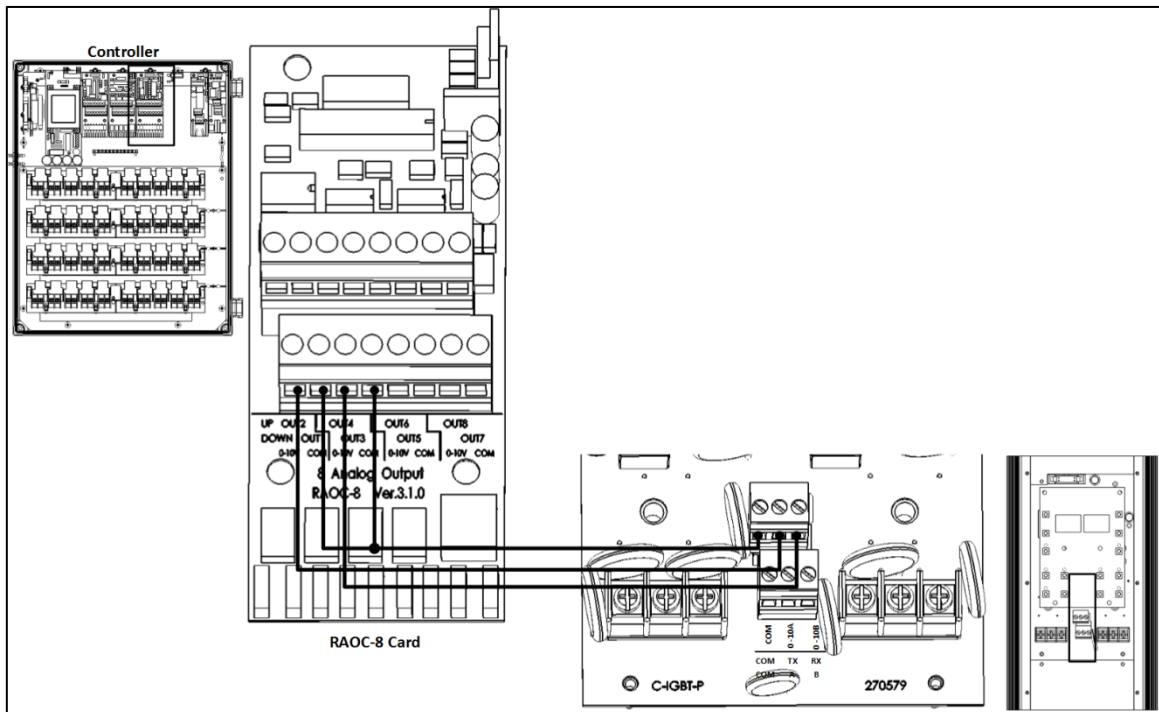

Figure 6: RAOC-8 (Analog Output) to LLED 2.0 Wiring Diagram
Figure 6 key
1. Connect the 0 - 10 VDC (+) and COM (-) wires from the external device to terminal ports "0 10V A", "0-10V B" and COM (Figure 6).